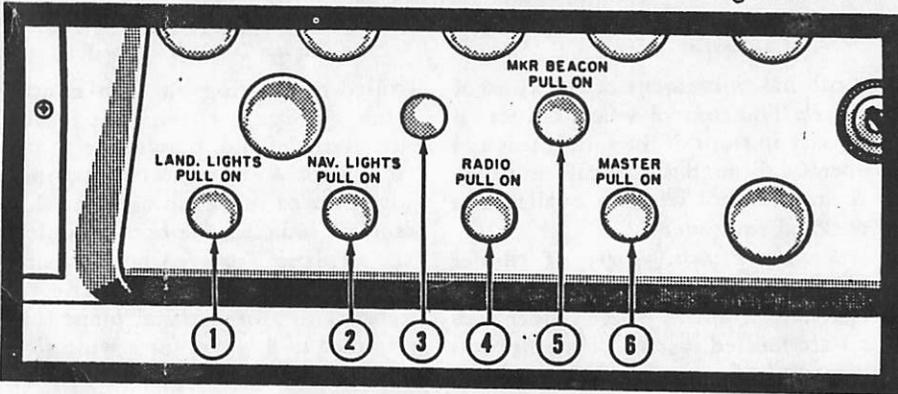

Figure 2. Electrical Switch Panel
21. Electrical Switch Panel (See figure 2)
Master Switch. The master switch (6, figure 2) is the first knob to the left of the cigarette lighter. Switch positions are "ON" (out position) and "OFF" (in position). When the master switch is turned "ON", a solenoid switch is energized and the electrical power of the battery is admitted into the electrical system. In event of a short or malfunctioning of the airplane electrical system, the master switch may be turned off and the engine will con-
left wing tip, a green light on the right wing tip, and a white light on the trailing edge of the rudder. The navigation light switch (2, figure 2) is mounted on the instrument panel. To turn the navigation lights on, pull the navigation light switch out. To turn the lights off, push the switch in.
Landing Light (Optional Equipment). The landing light consists of two lamps mounted side-by-side in the leading edge of the left wing. One of the lamps is adjusted to give proper illumination of the runway during landing and take-off while the other lamp is set to provide illumination of the ground for taxiing purposes. The landing light switch (1, figure 2) is mounted on the instrument panel. To turn the taxi light on, pull the switch out to the first stop. To turn both the landing light and the taxi light on, pull the switch out to the second stop. To turn lights off, push the switch all the way in.